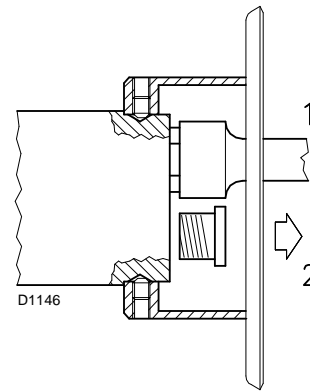

Fig. 13
- install two nozzles with the box wrench 1)(Fig. 13), after having removed the plastic plugs 2);